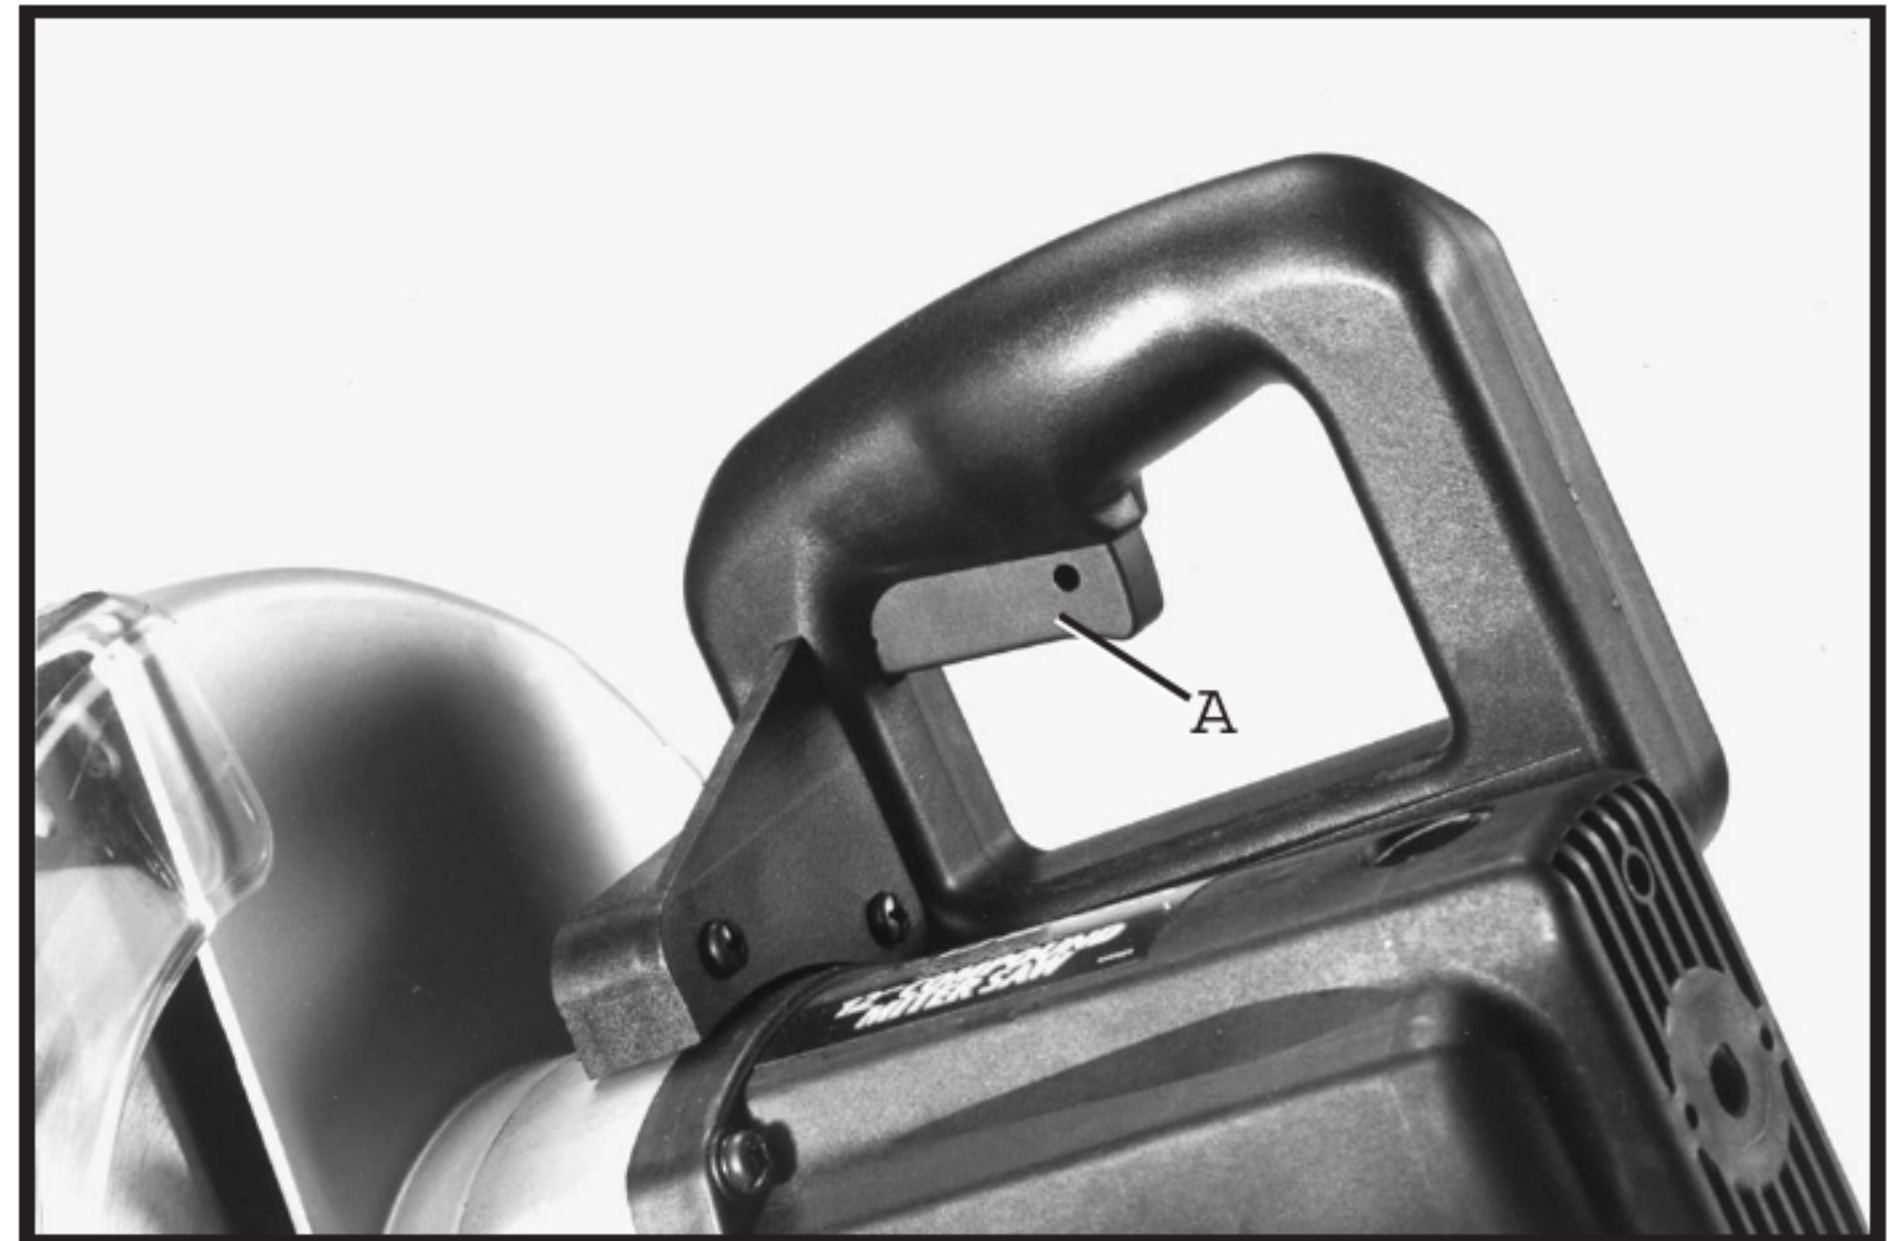

Fig. 15
To start the machine, depress switch trigger (A) Fig. 15. To stop the machine, release the switch trigger.
This saw is equipped with an automatic electric blade brake. As soon as the switch trigger (A) Fig. 15, is released, the electric brake is activated and stops the blade in seconds.
DANGER: A TURNING SAW BLADE CAN BE DANGEROUS. AFTER COMPLETING CUT, RELEASE SWITCH TRIGGER (A) FIG. 15, TO ACTIVATE BLADE BRAKE. KEEP CUTTING HEAD DOWN UNTIL BLADE HAS COME TO A COMPLETE STOP.